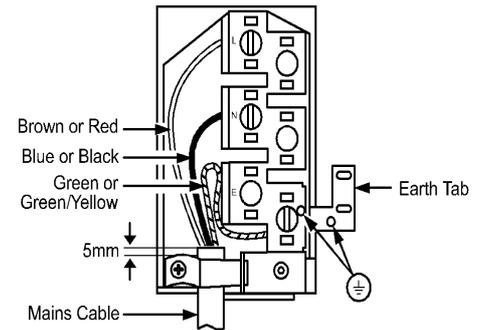

Fig. 11
- Make connection as shown in Fig.11 by proceeding as follows:-
- Clamp the mains cable securely ensuring 5mm of the outer insulation is inside the terminal block and that the wires are not taught but not so slack as to cause any fouling. See Fig. 11.